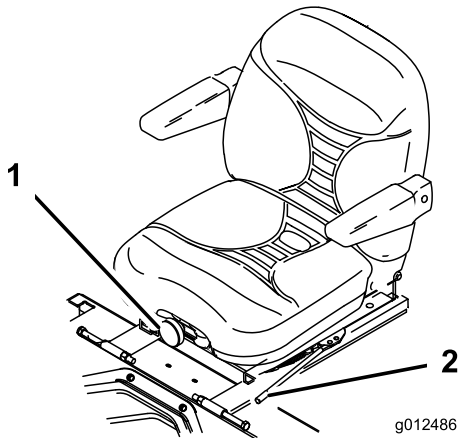

Figure 28
1. To adjust, move the lever sideways to unlock seat (Figure 28).
To adjust, turn the knob in front either direction to provide the best comfort (Figure 28).